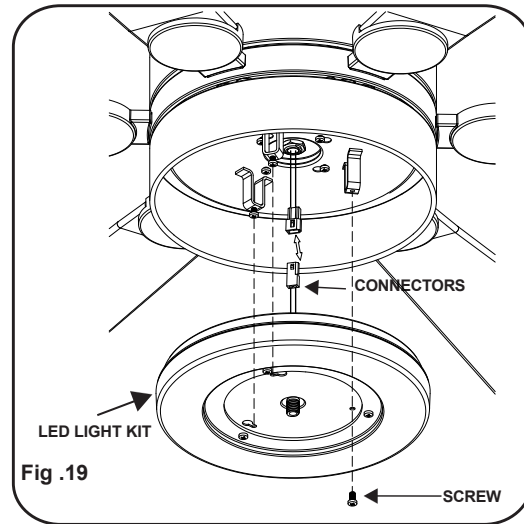

Fig .19
Step 2. While holding the LED light kit under the fan motor assembly, make the 2-pin wire connections: (Fig. 19)
Step 3. Place the key holes from the LED light kit over the 2 screws previously loosened from the mounting plate, turn light kit until it locks in place at the narrow section of the key holes. Secure by tightening the 2 screws previously loosened and the one previously removed. (Fig. 19)